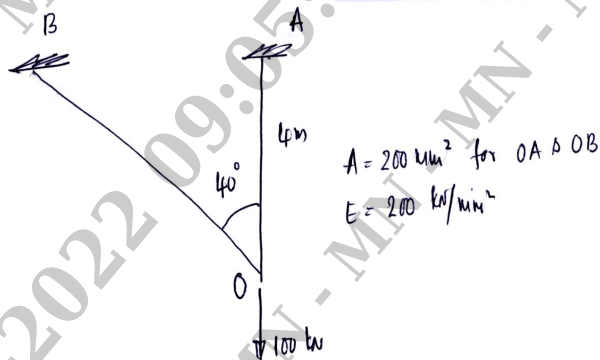

Fig.Q.10
- 10 Find the forces in the members of a joint 'O' shown in Fig.Q.10 by stiffness matrix method. (system approach). (20 Marks)